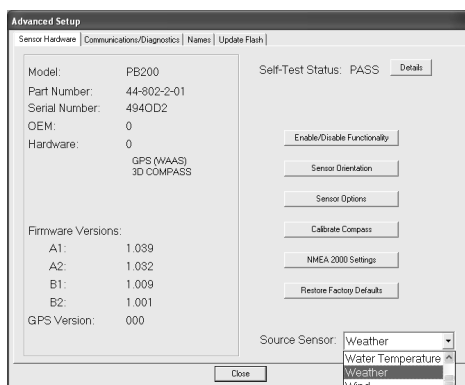

Figure 30. Advanced Setup window—Source Sensor drop-down menu
**NMEA 2000 Interface**—Since more than one sensor may be connected, you must choose a source sensor. Select any available sensor from the Source Sensor, drop-down menu. (see Figure 30). *Note that a Source Sensor is identified by its function.* If a WeatherStation Instrument is available, it will be the default sensor, and it will be identified as Weather. The actual sensor associated with each function is defined by the user through the Communications Interface.